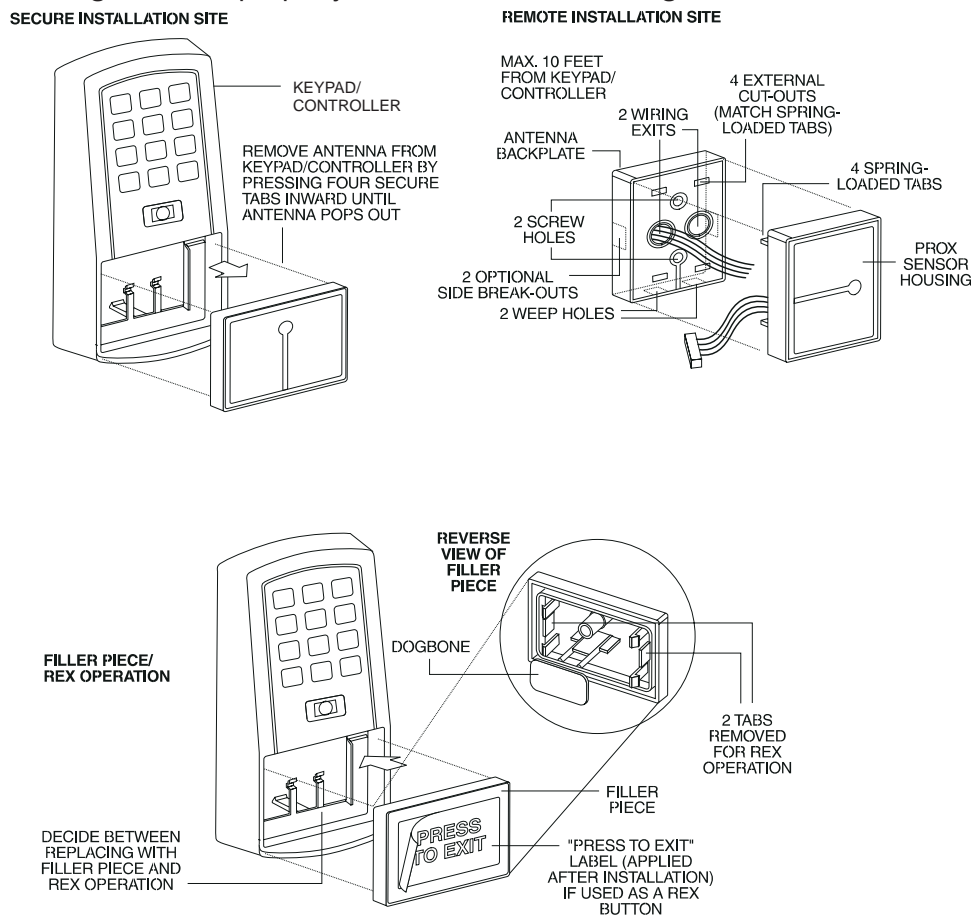

Figure 2 Performing a Secure Installation
- If you elect to use the filler piece as a REX switch, return to the keypad/controller and break off two tabs on the filler piece as illustrated in Figure 2. The filler piece replaces the antenna on the front of the keypad/controller for secure installations.